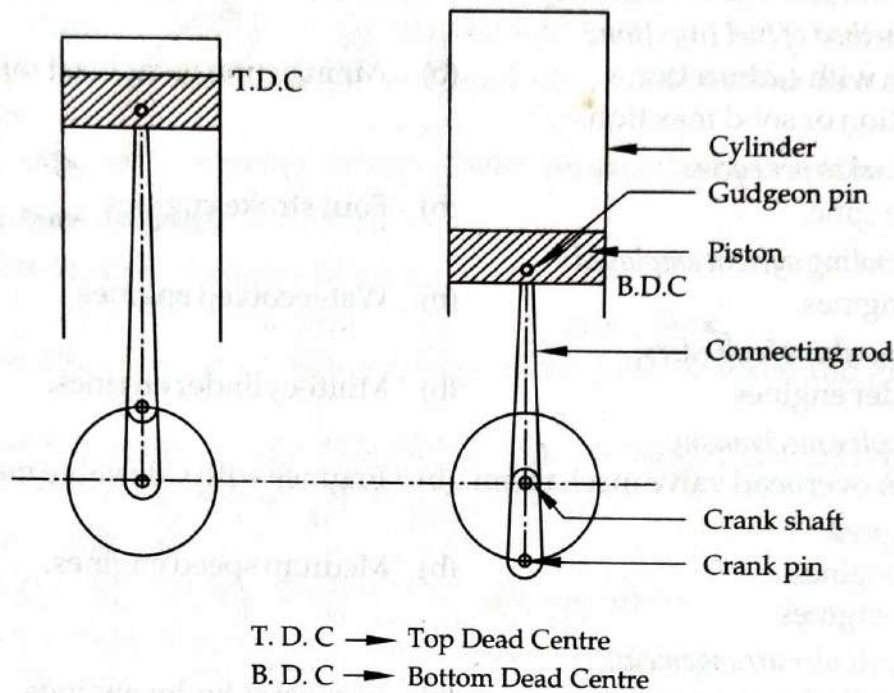

Fig. 2 Vertical Cylinder Engines showing, T.D.C & B.D.C positions
2. Dead centres: The piston moves inside the cylinder with reciprocatory (to and fro) motion. The extreme positions of the piston inside the cylinder during its motion are known as dead centre positions. The dead centre positions of the piston are corresponding to the instant, when the centre of the crankshaft, centre of crank pin and centre of gudgeon pin, all lie on the same straight lines. There are two dead centre positions. In vertical engines, these positions are known as Top Dead Centre position (T.D.C) and bottom dead centre position (B.D.C). As shown in Fig. 2.